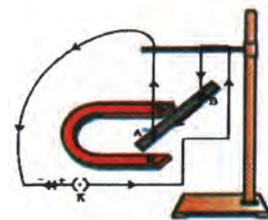

Fig. 4.12
- Take a small aluminium rod AB (of about 5 cm). Using two connecting wires suspend it horizontally from a stand, as shown in Fig. 4.12.
- Place a strong horse-shoe magnet in such a way that the rod lies between the two poles with the magnetic field directed upwards. For this put the north pole of the magnet vertically below and south pole vertically above the aluminium rod (Fig. 4.12).